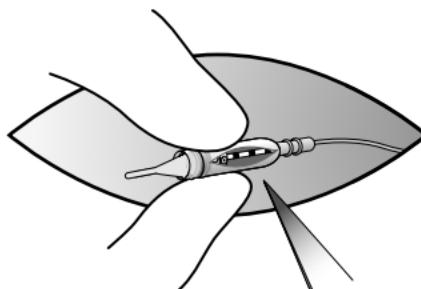

Figure 4. Cut connector boot to expose setscrew.
4. Cut the connector boot over the lead cap to expose the setscrew (Figure 4).